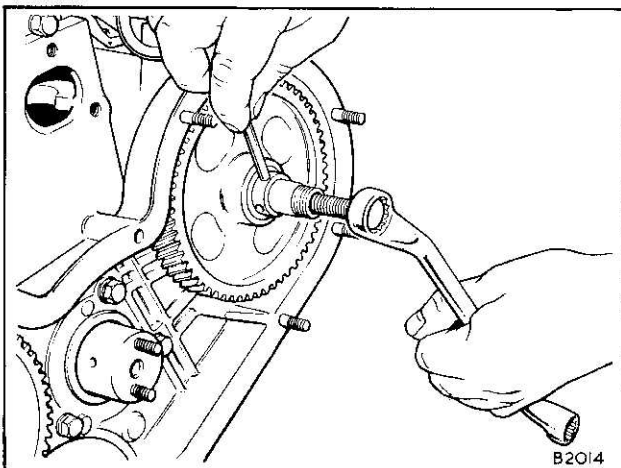

Fig. 3
7. Remove the timing gears. The fuel injection pump gear can be removed with the special puller, Fig. 3.